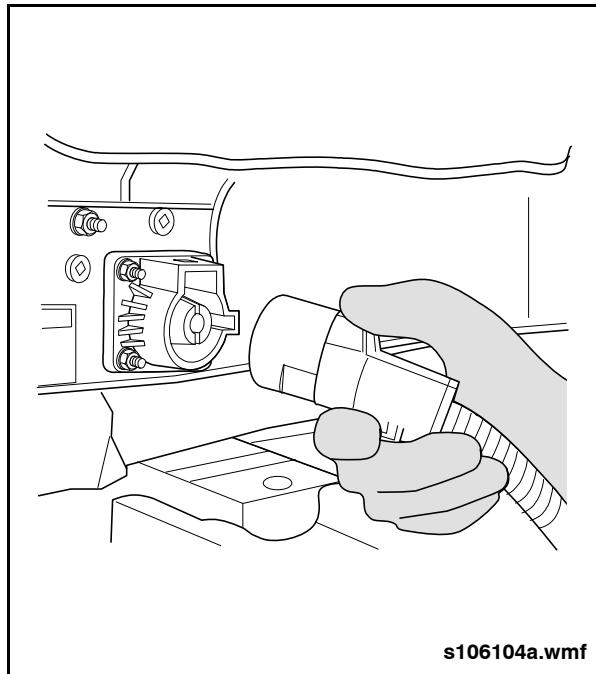

Fig. 54: ESS High Voltage Connections
6. Remove the positive and negative connectors from the ESS. See "Fig. 54: ESS High Voltage Connections" on page 3. Use a lockout device to prevent unauthorized reinstallation.